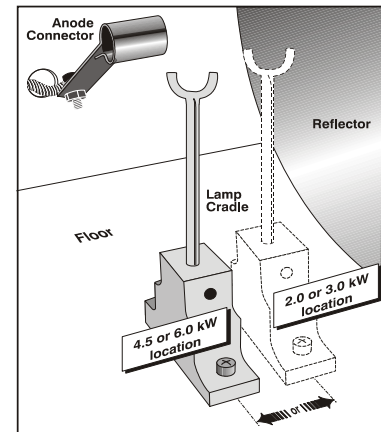

Figure 2-21 Move Cradle Back for 2.0 or 3.0 kW Lamps
- For 2.0 or 3.0 kW lamps, move the cradle to the rear position, i.e., approximately 1" closer to the reflector. See **Figure 2-21**.